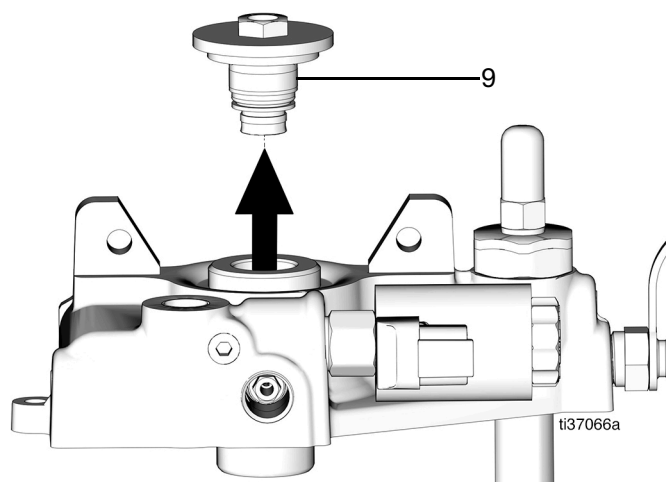

FIG. 47
30. Remove the retaining nut (9) located on the upper housing (FIG. 47).